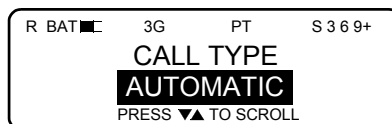

Figure 3-27. [CALL] Key Pressed
- a. Press [CALL]. See Figure 3-27.